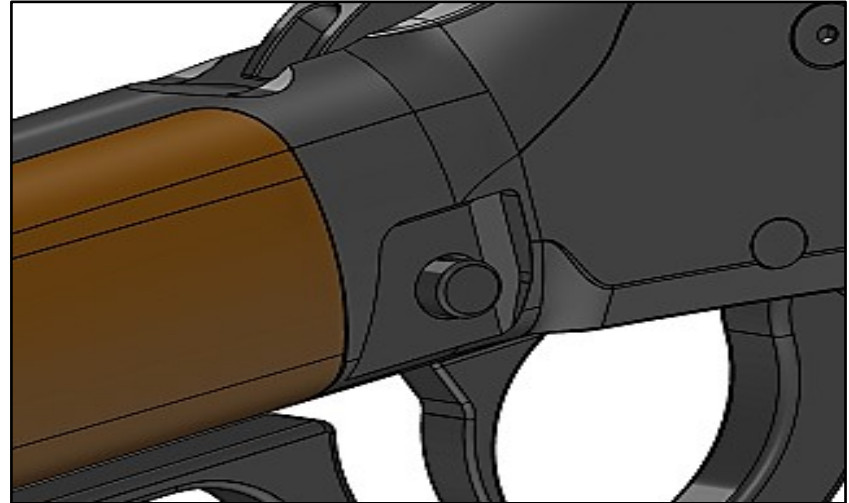

FIGURE 4 – FULL SAFE
Negligent discharge can cause severe injury or death. Always keep the safety on and your finger off the trigger until you have clearly identified your target, lined up your sights on the intended target and verified that the backstop is clear. Always store and transport your firearm: (1) with the magazine and chamber UNLOADED; (2) with the child safety lock properly installed; and (3) with the safety in the FULL SAFE position - FIGURE 4.
For the FULL SAFE position, the manual safety button must be pressed fully towards the shooter's right. There will be no red visible on the manual safety button in this position - FIGURE 4.